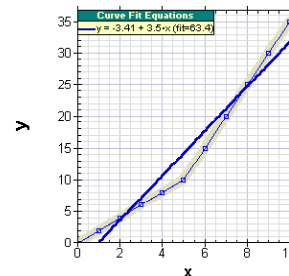

Figure 86
- Decide what kind of fit you are going to do and from the *Graph* Menu select *Tools* and then *Best Fit Line* (in this case). The best fit line is shown in Figure 86.